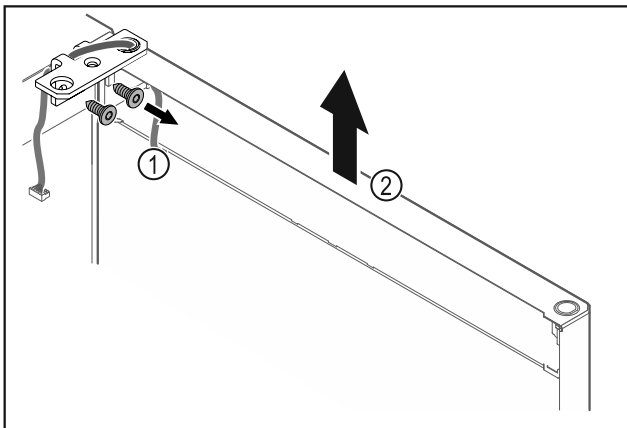

Fig. 14
- ▶ Unscrew the hinge Fig. 14 (1).
- ▶ Lift the door with the hinge straight up by Fig. 14 (2) roughly 200 mm and take it off.